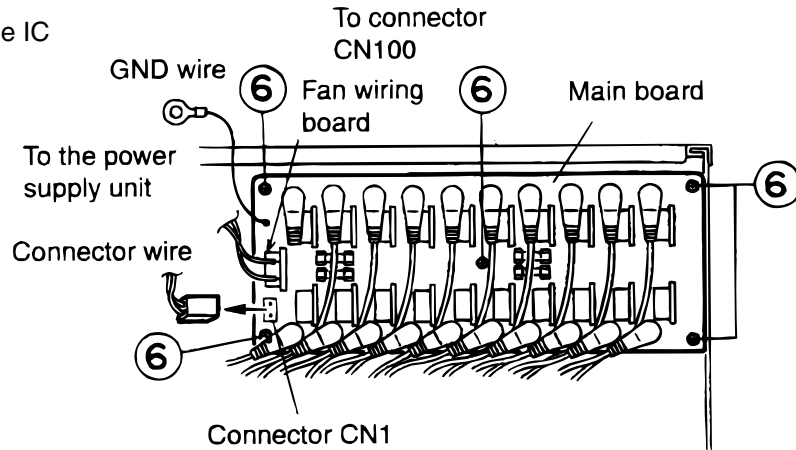

Fig. 6
3. Disconnect the connector wire connected to the power supply unit from the connector on the main board (Fig.6).